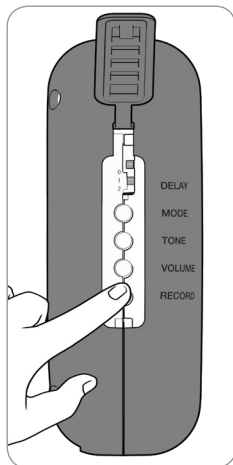

Fig. 9
4. Press and hold the RECORD button on left side of alarm (Fig. 9).